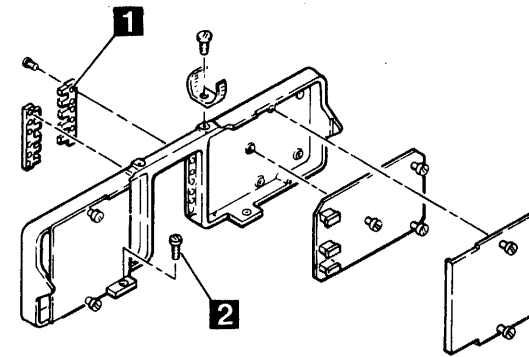

FIGURE 4-22. RETAINING SCREWS, CAMS AND CAM TOWER
5. Remove four screws, **1** in figure 4-22, holding each cam to cam tower, and carefully remove cams.
4. Loosen cable clamps on top of cam tower. Remove screws, **2** in Figure 4-22, holding cam tower to deck plate.